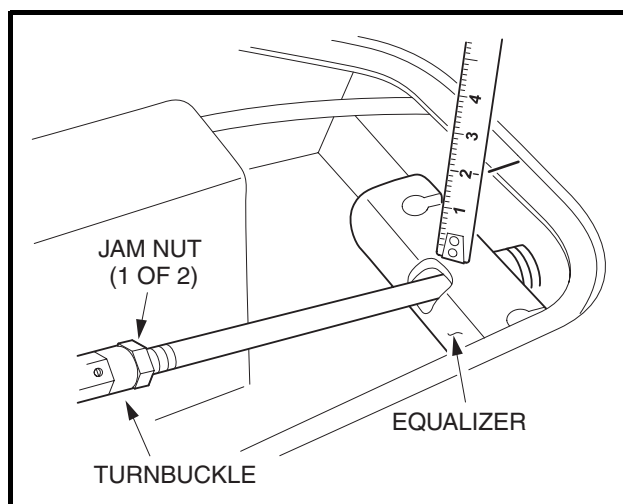

Figure 6-18 Brake Equalizer Adjustment
2. Ensure that both threaded rods are visible in the witness holes of the turnbuckle before the jam nuts are tightened (**Figure 6-18, Page 6-8**).
4. Tighten the rear jam nut first (labeled 1 of 2) to 13 ft-lb (17.5 N·m) (**Figure 6-18, Page 6-8**), then tighten the front jam nut to 13 ft-lb (17.5 N·m). **See following WARNING.** For optimal performance, drive the vehicle and apply the brakes approximately 20 times to burnish the shoes, center the clusters, and adjust the brake mechanism.